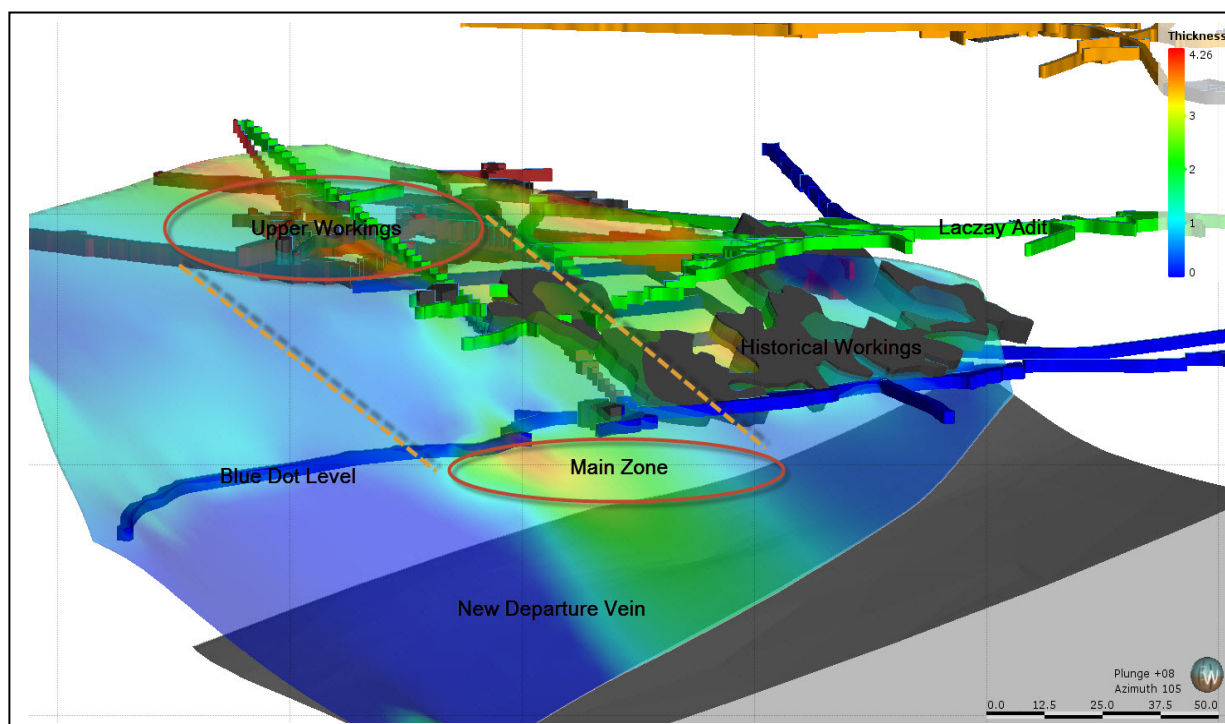

Figure 1: New Departure Mine – September 2014 Sample Results & Proposed Resource Areas
- Hard Rock Consulting ('HRC') has taken historical sample data and recent underground sample results to construct a model of the silver vein mineralisation (see Fig 1) to confirm the historical resource estimates and update the mine plan for New Departure